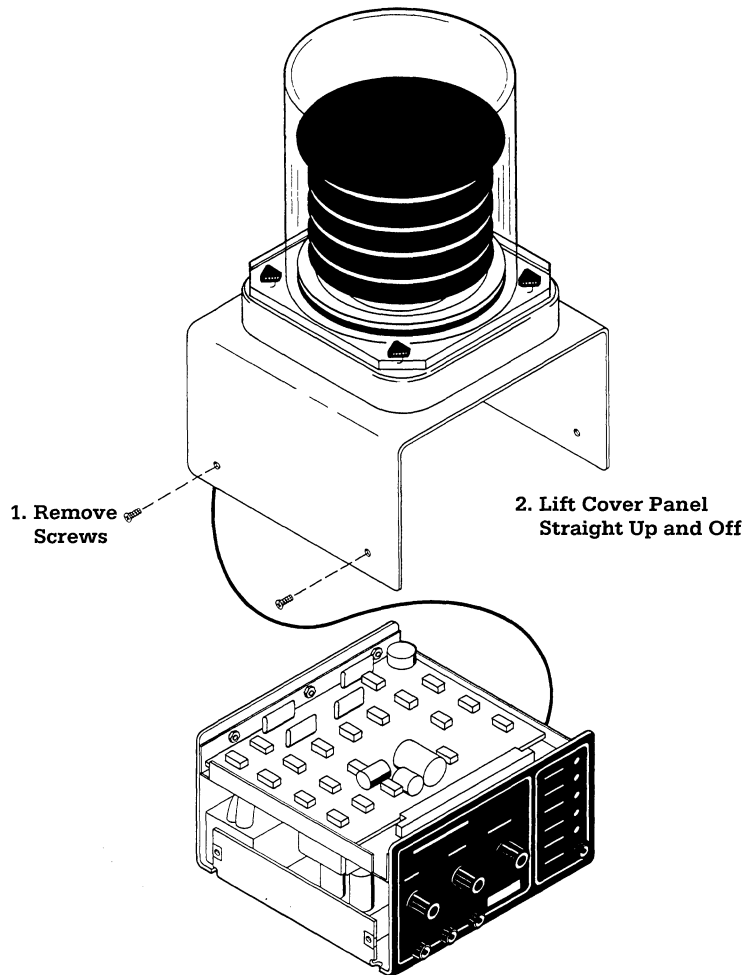

Figure 4-2
2. Remove the four screws that fasten the white cover panel in place, and lift off the panel. Do Not unfasten the ground wire between the cover panel and the chassis, (Figure 4-2).
1. Unplug the line cord and remove the four screws that fasten the cover panel in place. Lift off the cover panel (see Figure 4-2).